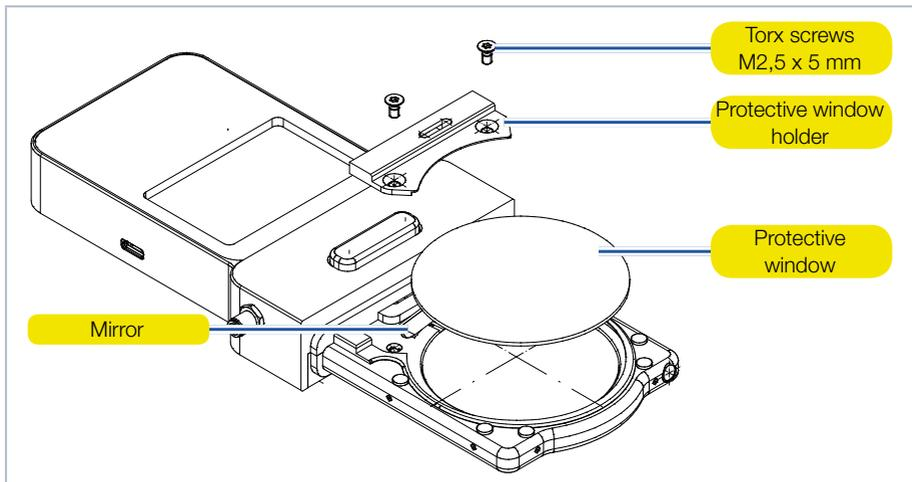

Fig. 14.3: Exchanging the protective window on the PMC-ALO
3. Place the device as shown in Fig. 14.3 on page 34 and carefully remove the protective window holder upwards.
6. Place the protective window holder according to Fig. 14.3 on page 34.